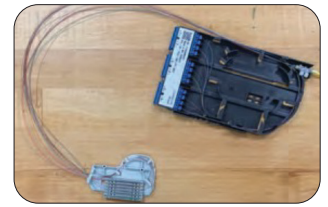

Figure 14
14. Route fibers into base. Position spool to prepare for routing. **(Figure 14)**